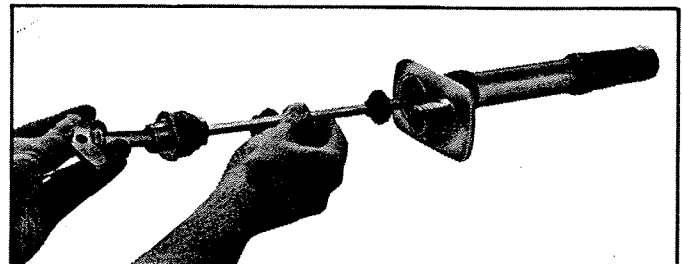

FIGURE 4
**B.** Use pliers. Firmly grip Cap Retainer (8) and turn counterclockwise to remove it, then remove Deflector Cap (7). *Shut off hydrant as tight as possible with Control Key (1) and use an adjustable open-end wrench or channel-lock type pliers to "break" Draw Nut (11) loose, then remove it with Control Key (1), turning counterclockwise until threads are free from Hydrant Head (12). Grasp Draw Nut (11) firmly and pull toward you to remove Actuator (2) and Actuator Rod (3). A vacuum is created between Shuttle (4) and backflow preventer Valve (10) making a firm grip and pull necessary to accomplish this step. Some agitation while pulling will be helpful.* See Figure 4.